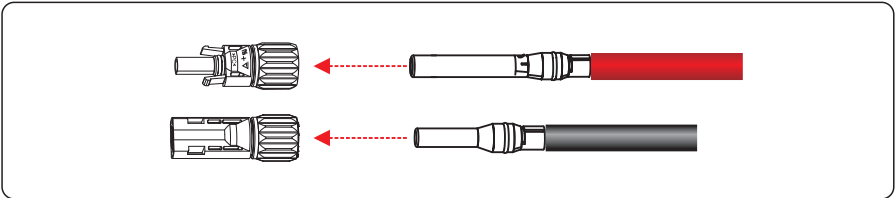

Figure 5.10 Connecting positive and negative connectors
Step 3 Insert the crimped positive and negative power cables into the corresponding positive and negative connectors until a "click" sound is heard, as shown in Figure 5.10.